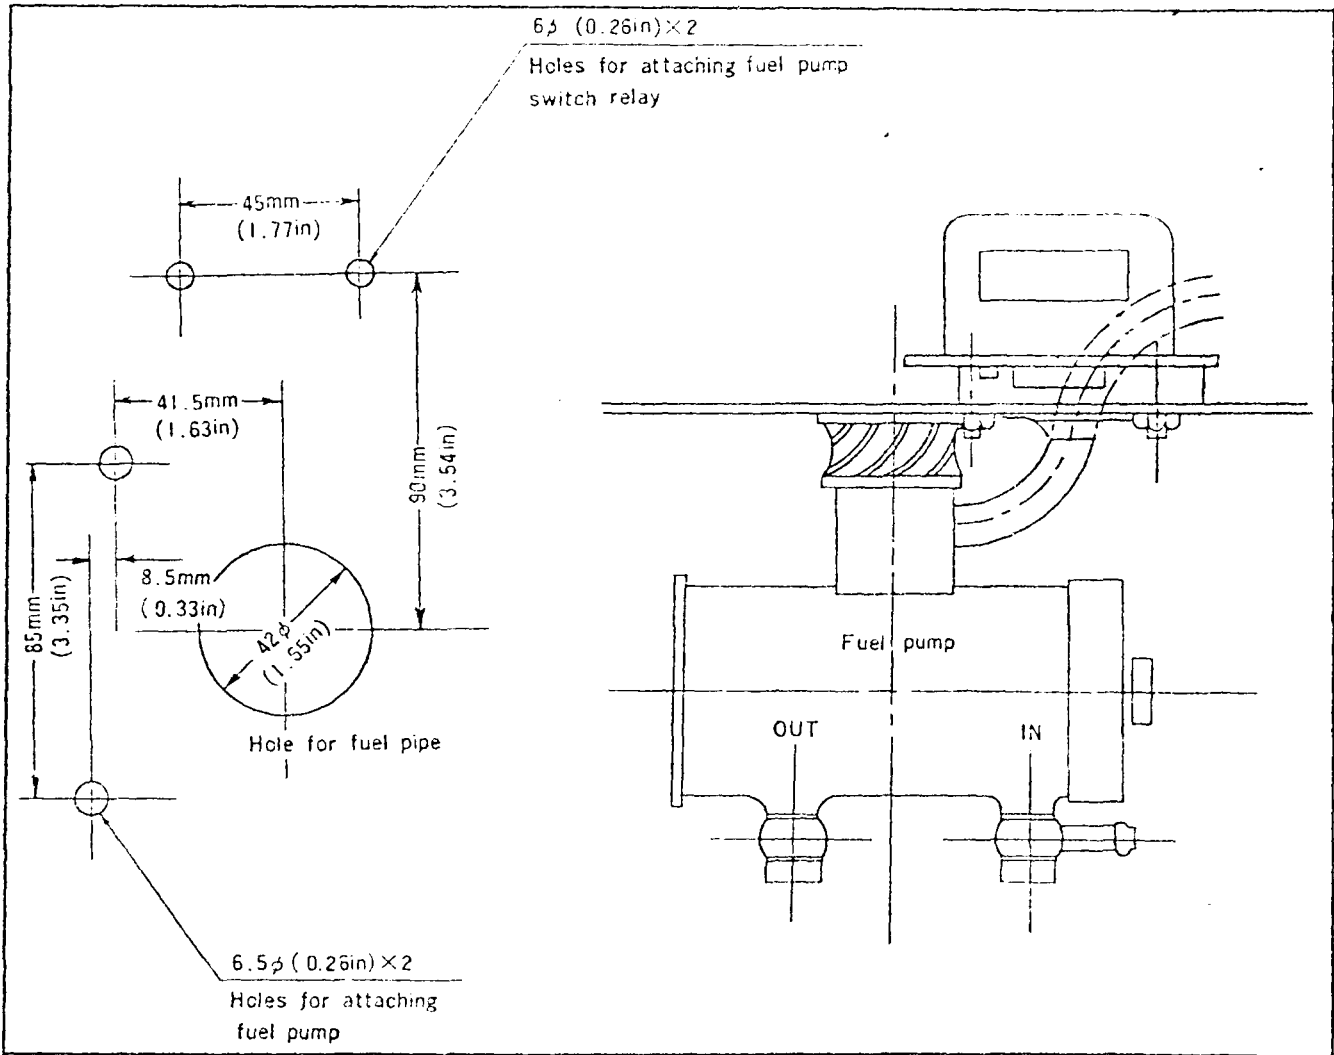

Fig. 2-20 Drawing for Attaching Fuel Pump
(1) Install the fuel pump on the left wall of the trunk (See Fig. 2-20).